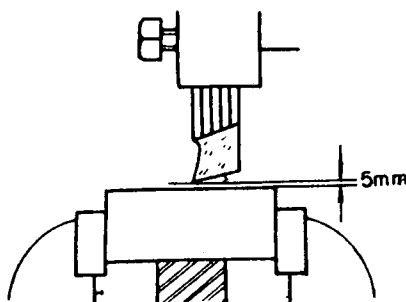

Fig. 7
- Bring the tip of the tool to about 5 mm above the surface to be planed (Fig. 7).